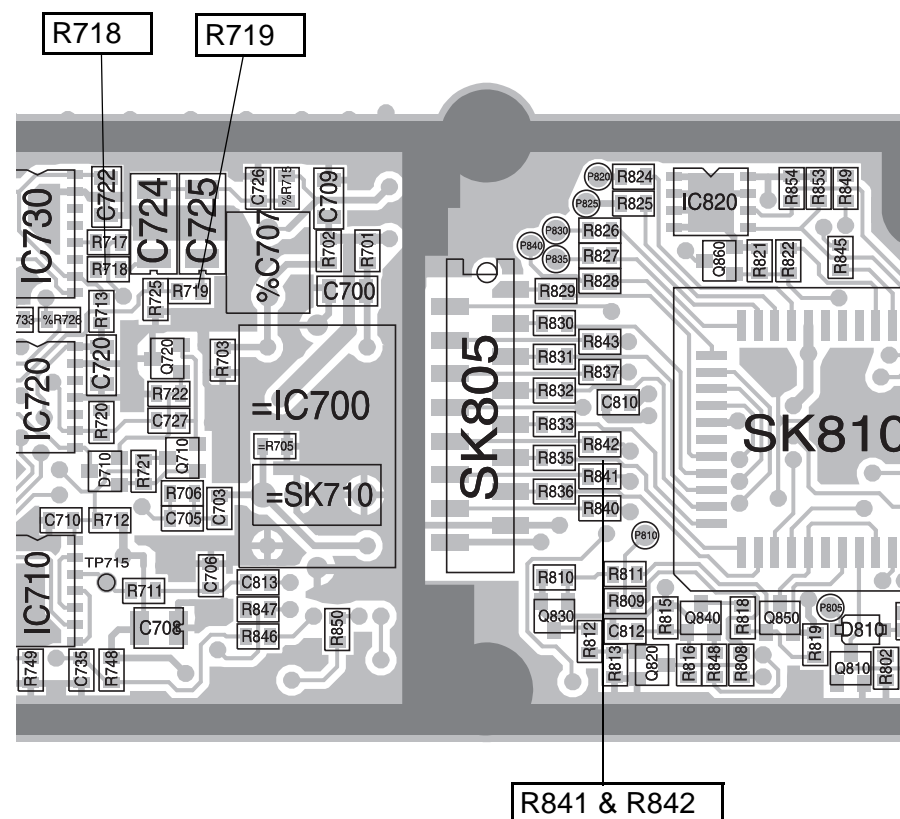

Figure 3 T800 Transmitter Microcontroller and Synthesiser Compartments
5. Remove R718 and R719 from the synthesiser compartment (shown in Figure 3).
6. Remove R841 and R842 (SMD) from the microcontroller compartment (shown in Figure 3) to disconnect the appropriate lines from the microcontroller.